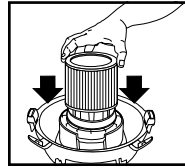

FIGURE 12
19. With the tank cover in an upside down position, slide the cartridge filter down over the lid cage, pushing until the filter seals against the cover. **FIGURE 12.**